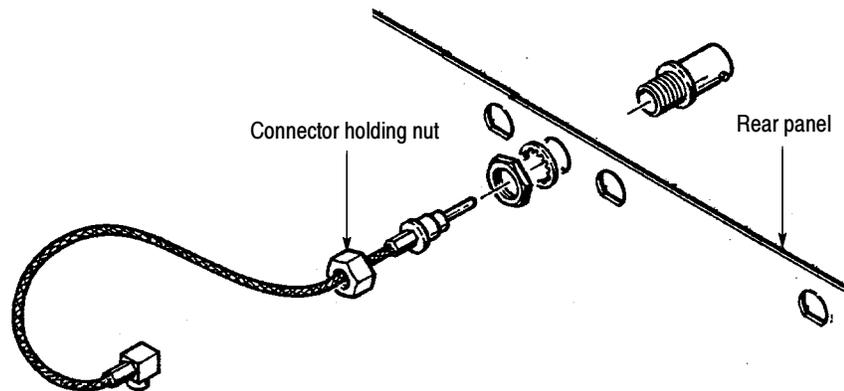

Figure 2: BNC connector/cable assembly configuration
6. Install the two BNC connectors in the rear panel (the holes are labeled **SERIAL SIGNALS**). Install the BNC hardware as shown in Figure 2.